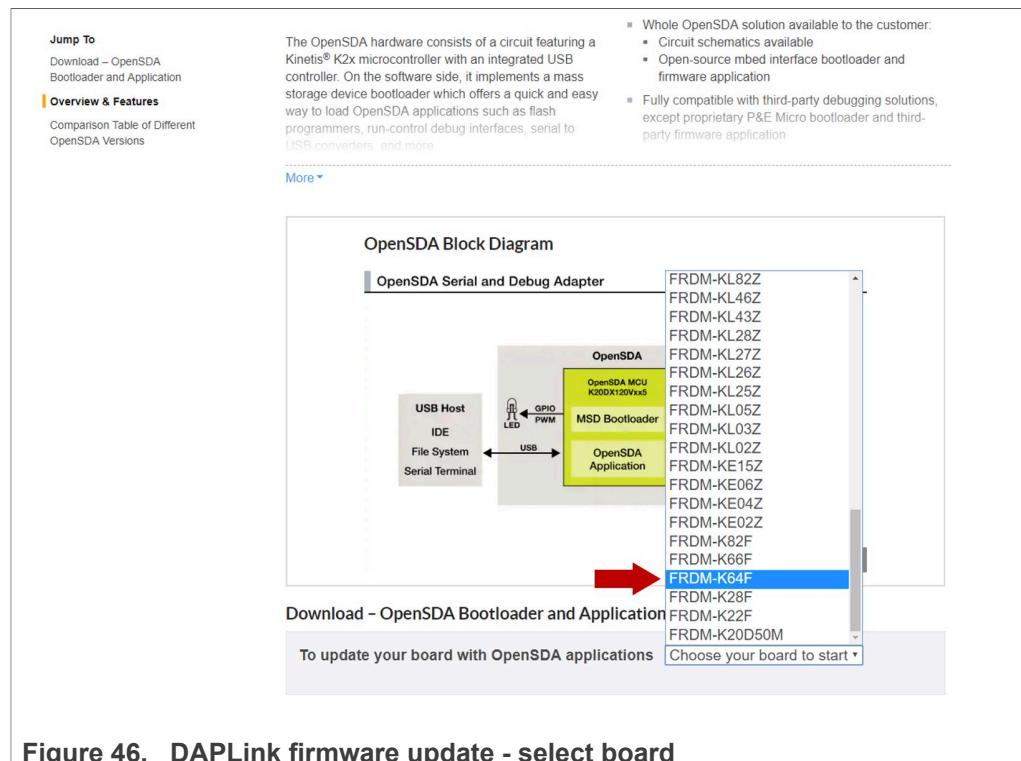

Figure 46. DAPLink firmware update - select board
2. Scroll down and select FRDM-K64F board from the **Download - OpenSDA bootloader and application** drop down list as indicated in Figure 46: